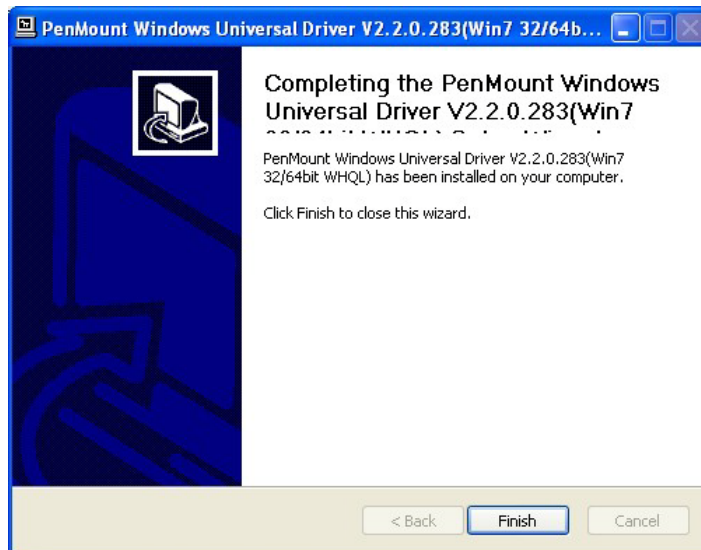

Figure 5-6: Finish Installation
Step 10: When the installation is complete, the complete screen appears. See Figure 5-6.